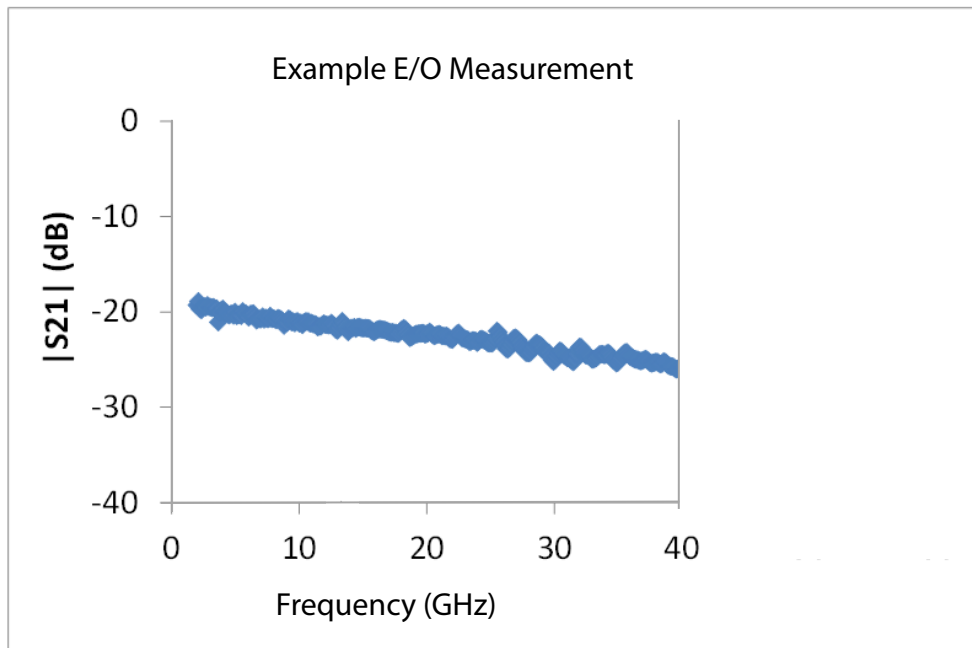

Figure 14-12. Results of an example 2-port E/O measurement using the procedure discussed in the text.
- The E/O measurement utility is invoked using the default port assignment, loading the .chx setup file and loading the characterization file of the MN4765X. Upon selecting Done on the dialog, the resulting S21 measurement reflects the conversion behavior of the modulator and is shown in Figure 14-12. In this case, there is about 10 dB of roll-off over the bandwidth of the measurement.